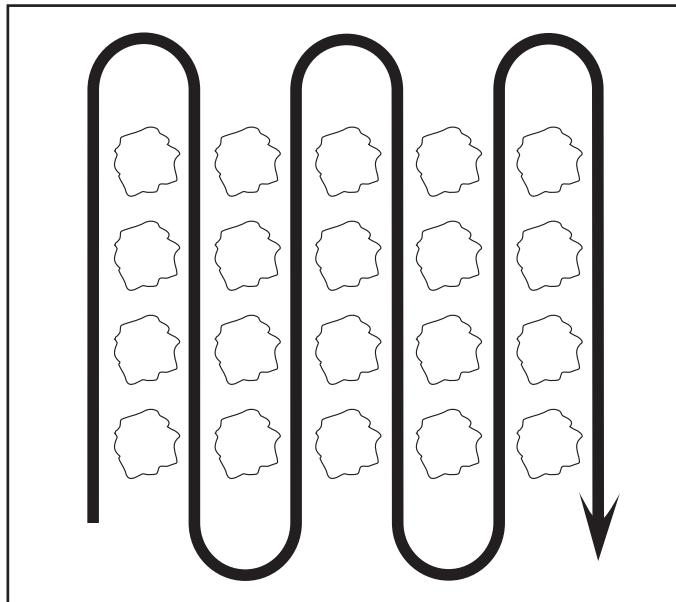

Fig. 14
- Cultivate up and down the rows at a speed which will allow tines to uproot weeds and leave the ground in rough condition, promoting no further growth of weeds and grass (See Fig. 14).